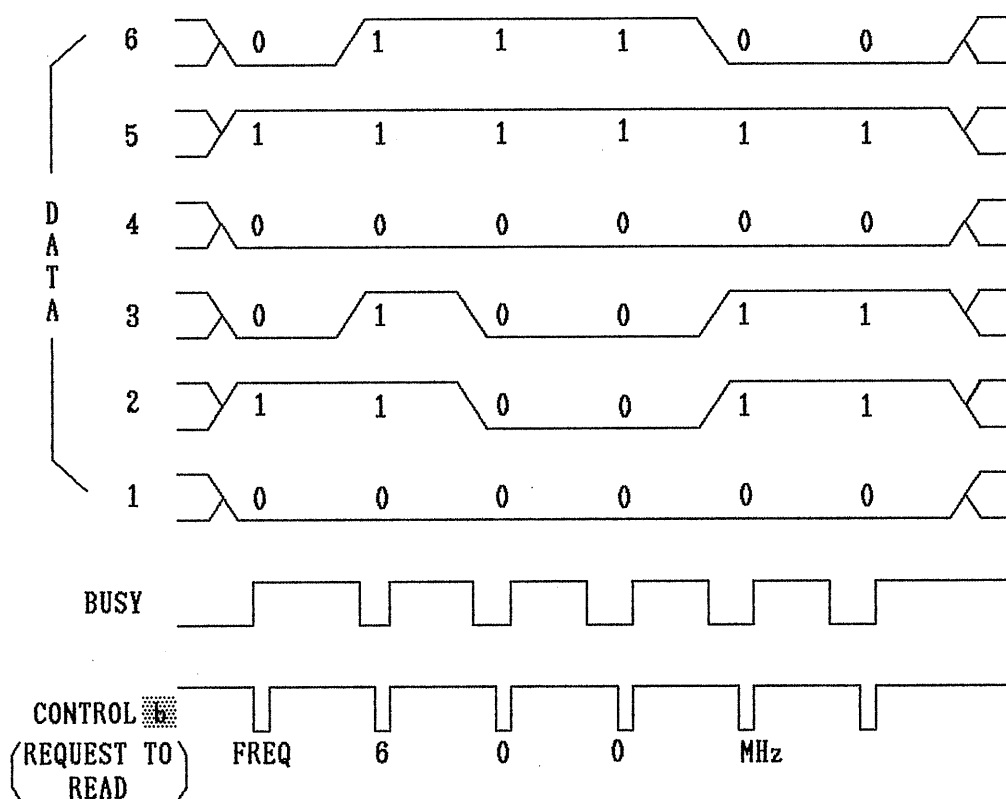

Figure 5-3
- 3) Set the data "600" according to the code table and send CONTROL  signal as shown in Figure 5-3.